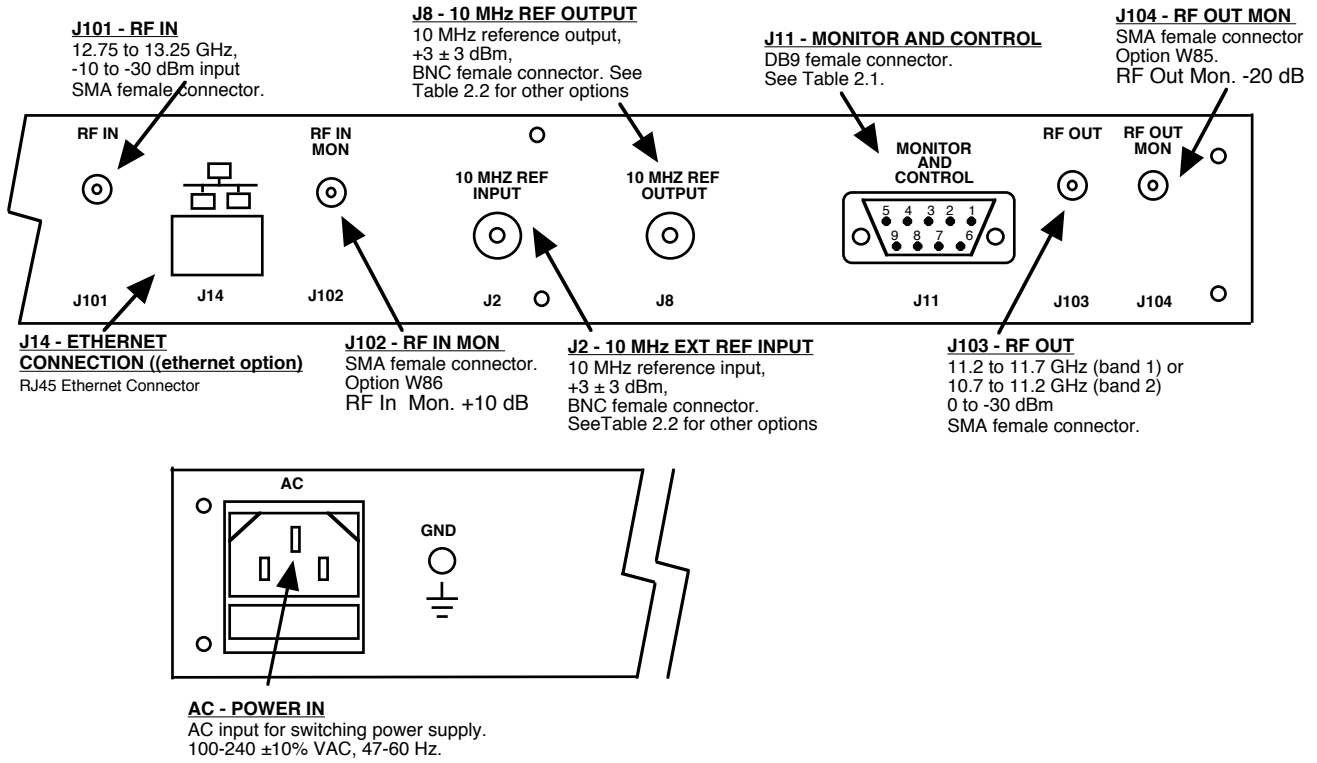

FIGURE 2.2 3116-T12-1311 Rear Panel Inputs and Outputs
2.2 Rear Panel Input / Output Signals - Figure 2.2 shows the input and output connectors on the rear panel.
1. Connect a -30 dBm to -10 dBm signal to RF INPUT (J101) Figure 2.2.